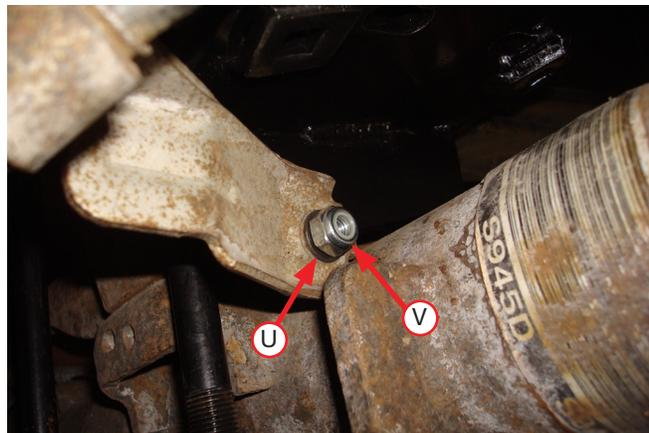

Fig. 12
12. Once the lower brackets are in position and the U-bolts are in place, install the passenger's (right) emergency brake cable bracket onto the bolt previously installed (Fig. 12) making sure the "tab" on the bracket indexes in the space between the lower bracket and axle. Cap with a flat washer (U) and nylon lock nut (V). Leave loose at this time.